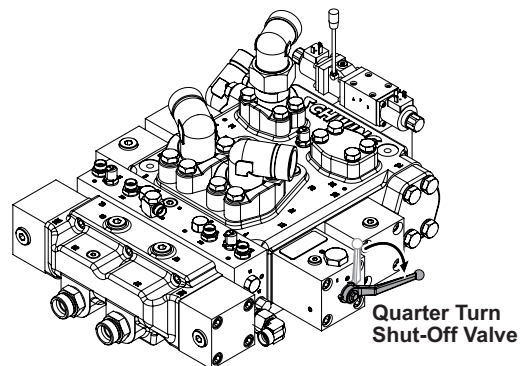

Figure 29
10. Open the shut-off valve (Figure 29). The unit will not stroke with this valve closed.